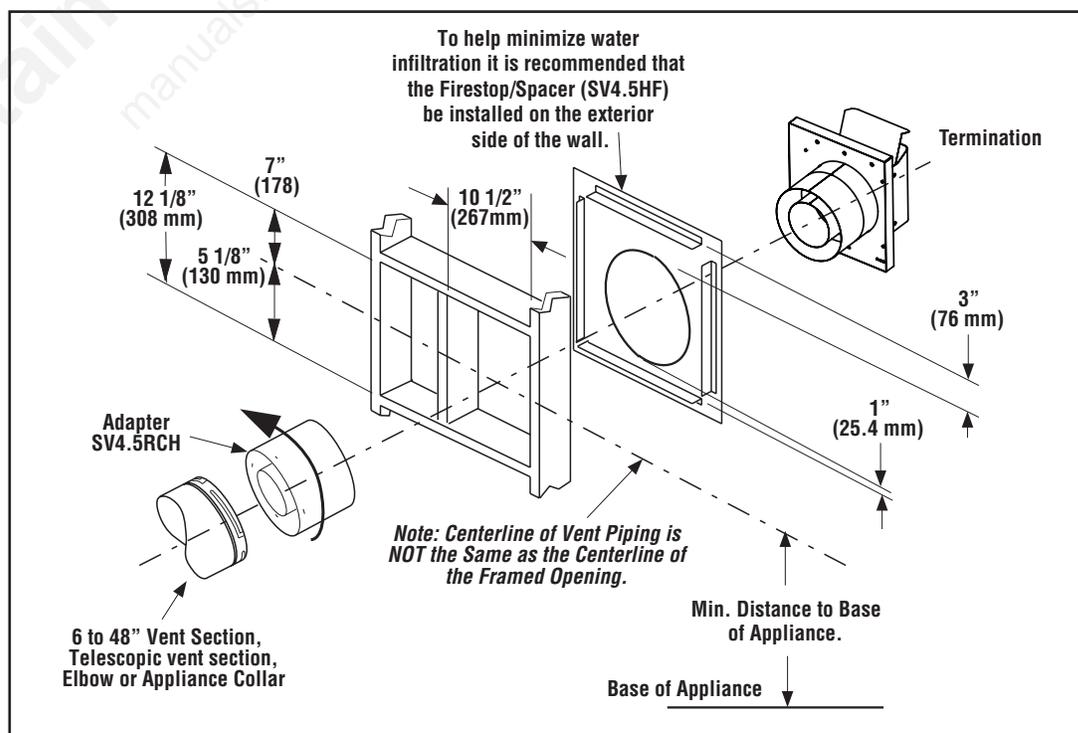

Figure 9 - Installing the Horizontal Termination
- 10. Assemble the vent run to the exterior wall—** If not previously measured, locate the center of the vent at the exterior wall. Prepare the opening. Assemble the vent system until the terminus of the last section is within 7" (178 mm) to 11 1/4" (286 mm) inboard of the exterior surface to which the SV4.5 HT termination is to be attached (Figure 9). If the terminus of the last section is not within this distance, use the telescopic vent section SV4.5LA, as the last vent section. Table 1, page 14 lists the additional venting components needed (in addition to the termination and adaptor) for a range of wall thicknesses.
- 11. Attach the termination adaptor—** Attach the adaptor (SV4.5RCH, provided with the termination) to the vent section or telescoping vent section, elbow or fireplace collar (Figure 9).
- 12. Install the firestop/spacer at the exterior wall—** When using the square termination, install SV4.5HF Firestop/Spacer over the opening at the exterior side of the framing, long side up, with the 3" spacer clearance at the top (Figure 9) and nail into place.